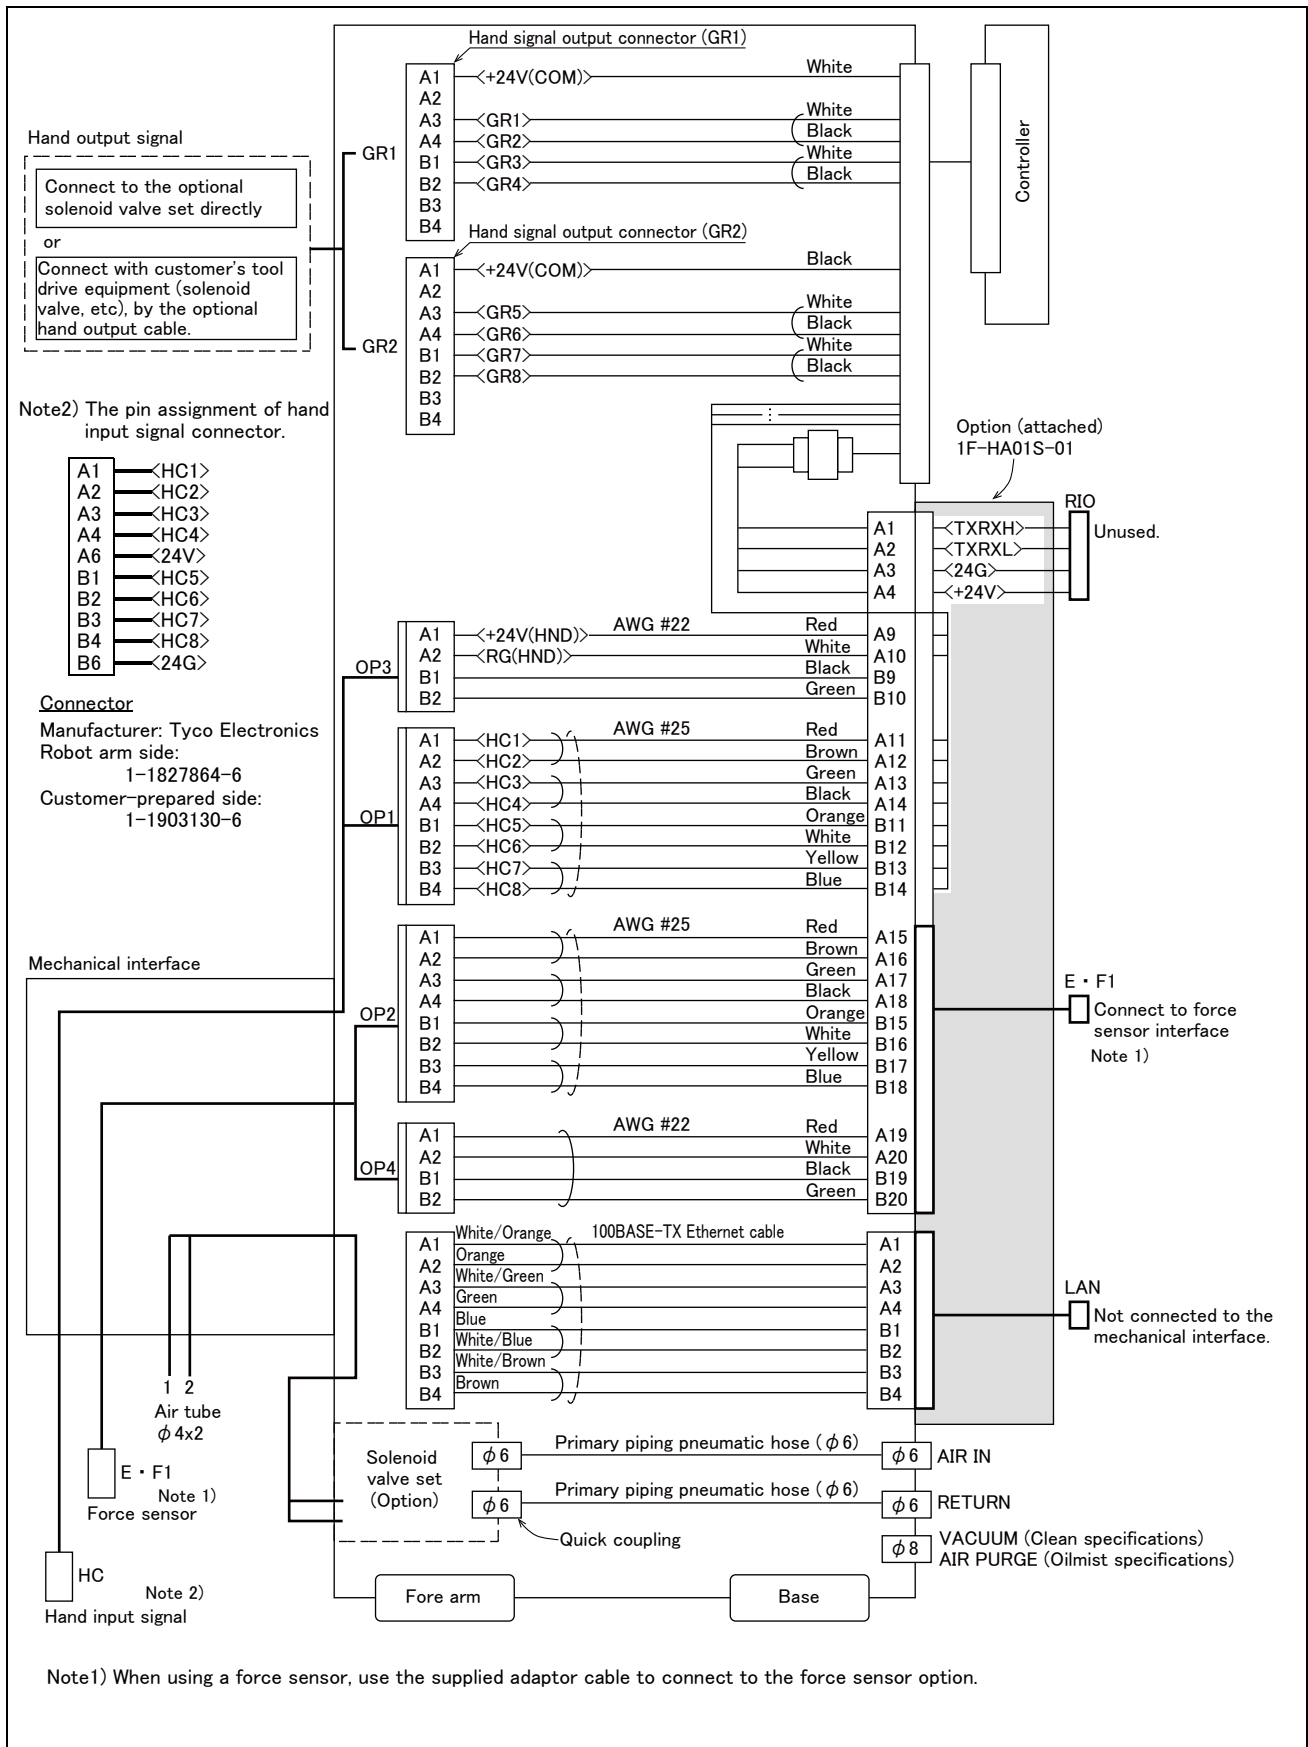

Fig.2-37 : Wiring and piping system diagram for hand and example the solenoid valve installation: RV-4FR/7FR/13FR series SH04
- *3) Refer to Fig. 2-37 for pin assignment of the hand input cable (HC).